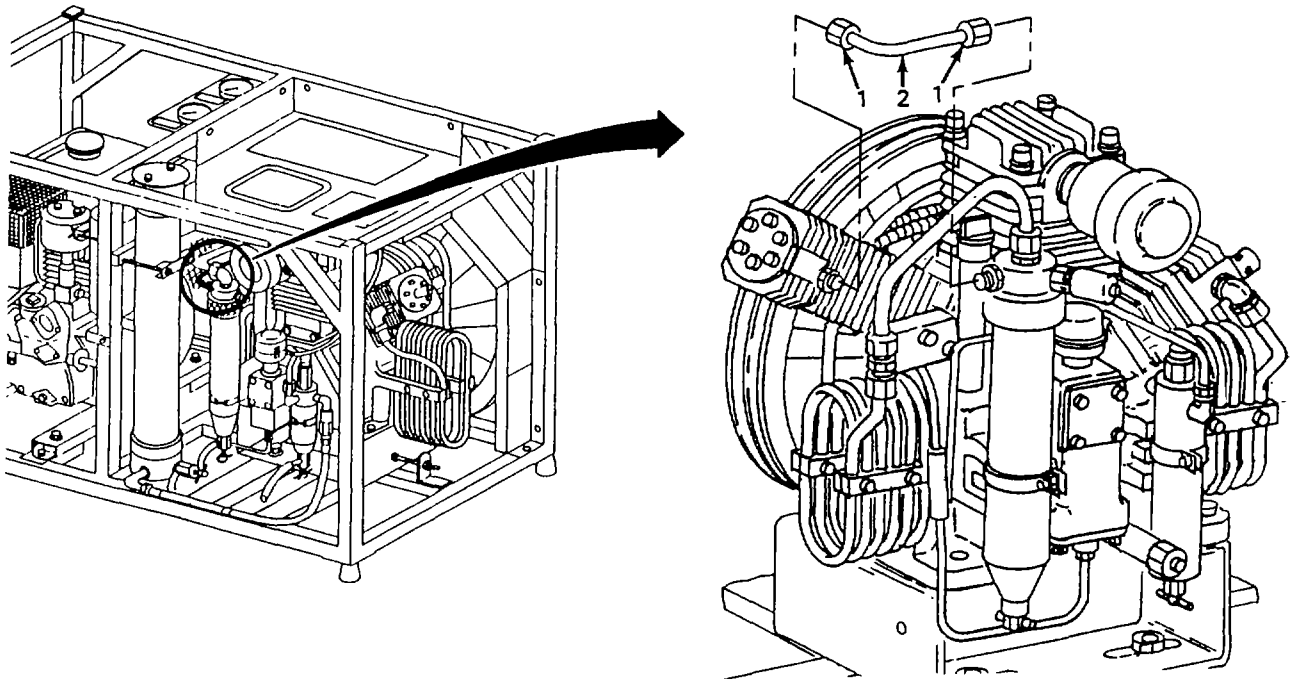

Figure 5-23. Third Stage Inlet Line, Replace.
- g. *Replace Third Stage Inlet Line.* (figure 5-23)